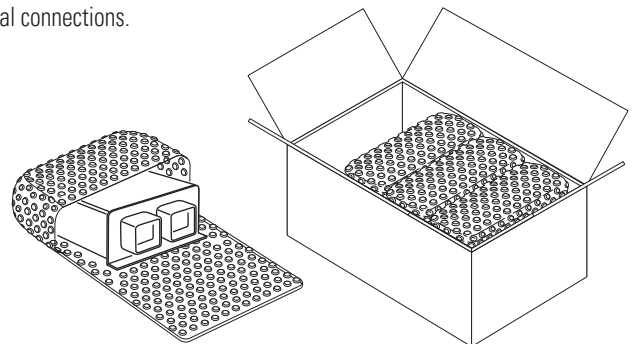

Figure 1
1. Remove unit from main carton. See FIGURE 1.